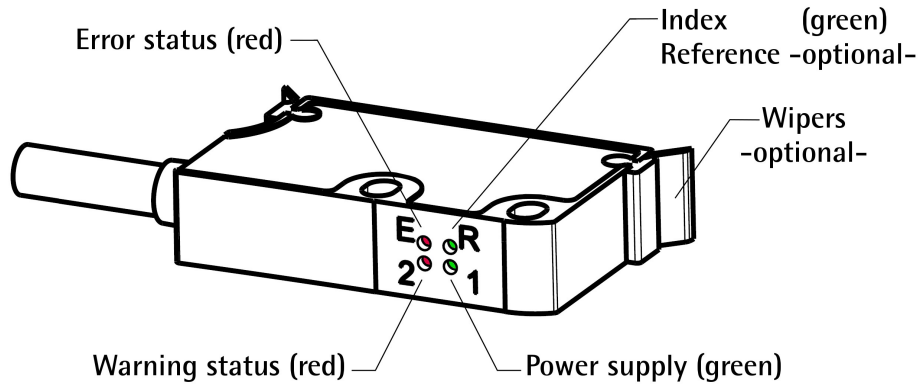

Figure 6 - Diagnostic LEDs and optional cleaning wipers
4.10 Diagnostic LEDs (Figure 6)
The following list shows some typical faults and errors that may occur during installation and operation of the magnetic measurement system. Refer also to the "4.10 Diagnostic LEDs (Figure 6)" section on page 21.